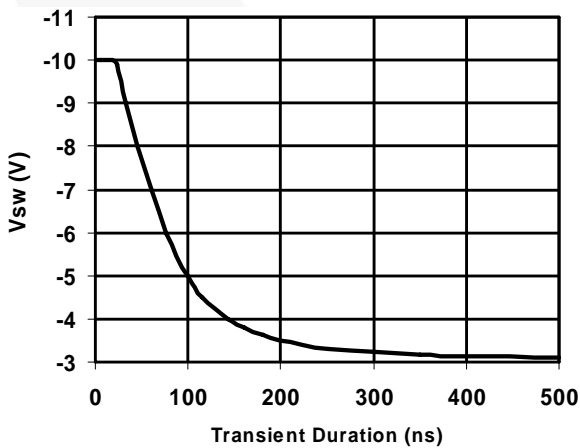
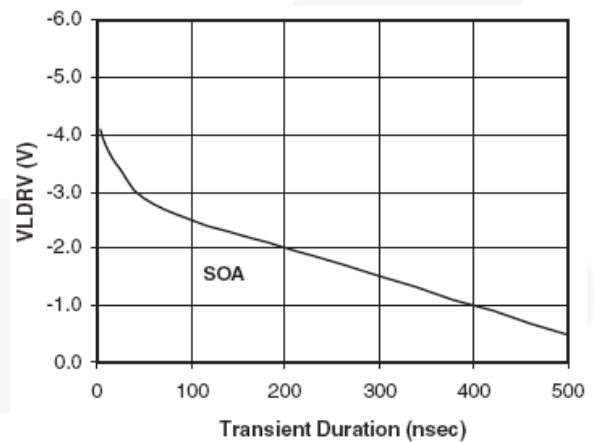

Figure 17. Negative SW Voltage Transient
Figure 18. Negative LDRV Voltage Transient
2. For transient derating beyond the levels indicated, refer to Figure 17 and Figure 18.